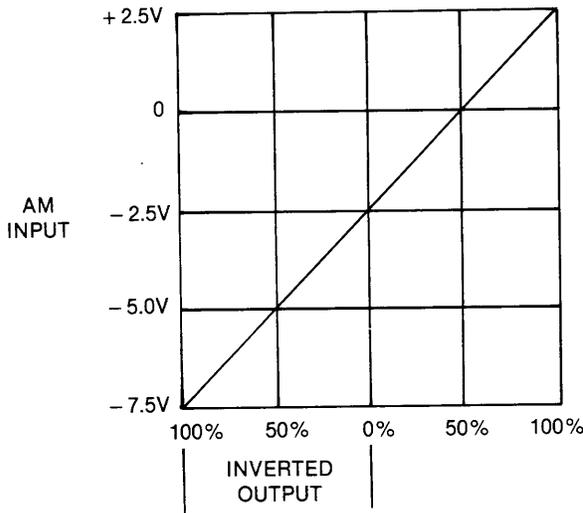
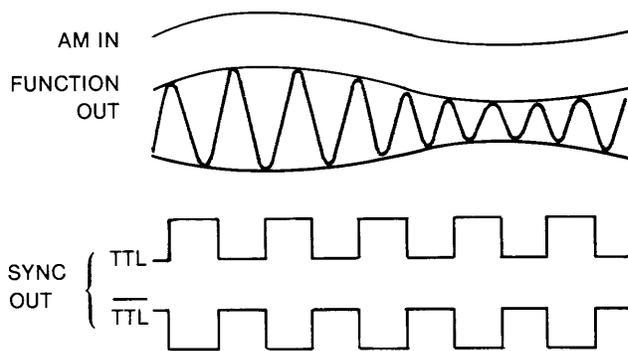

Figure 3-5. AM Input Vs Envelope Output
Figure 3-6. AM Timing Relationships.
- C5** Selects amplitude modulation. When AM is selected the main out level is reduced to half the programmed amplitude. An ac voltage (± 2.5 Vp, typical, for 100% modulation; dc to 10 MHz minimum rate) at the AM IN BNC modulates the function output. When modulation levels vary between -2.5 V and -7.5 V the output level is inverted as shown in figure 3-5. Figure 3-6 show AM timing relationship.